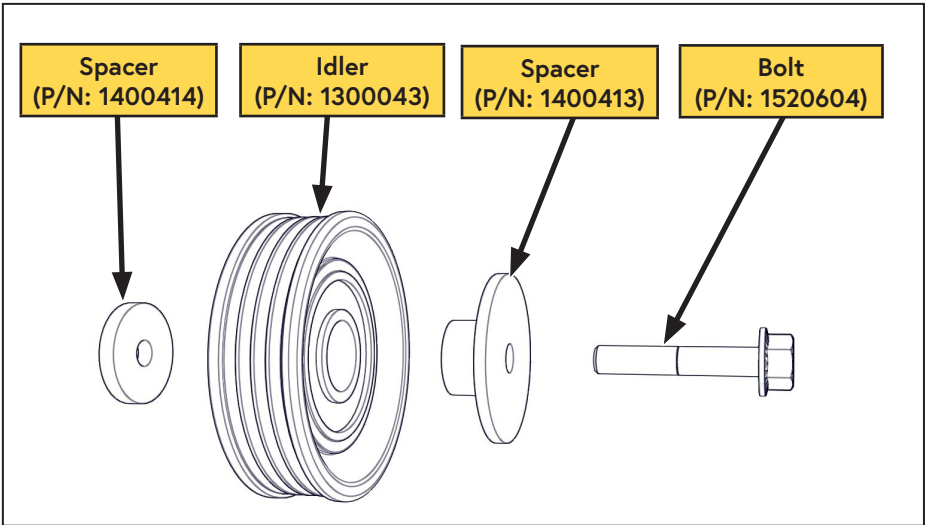

Figure 18 — Engine idler
- Install the VMAC idler (from the fast pack) in the OEM "back" idler position and torque to specification (Figure 18).